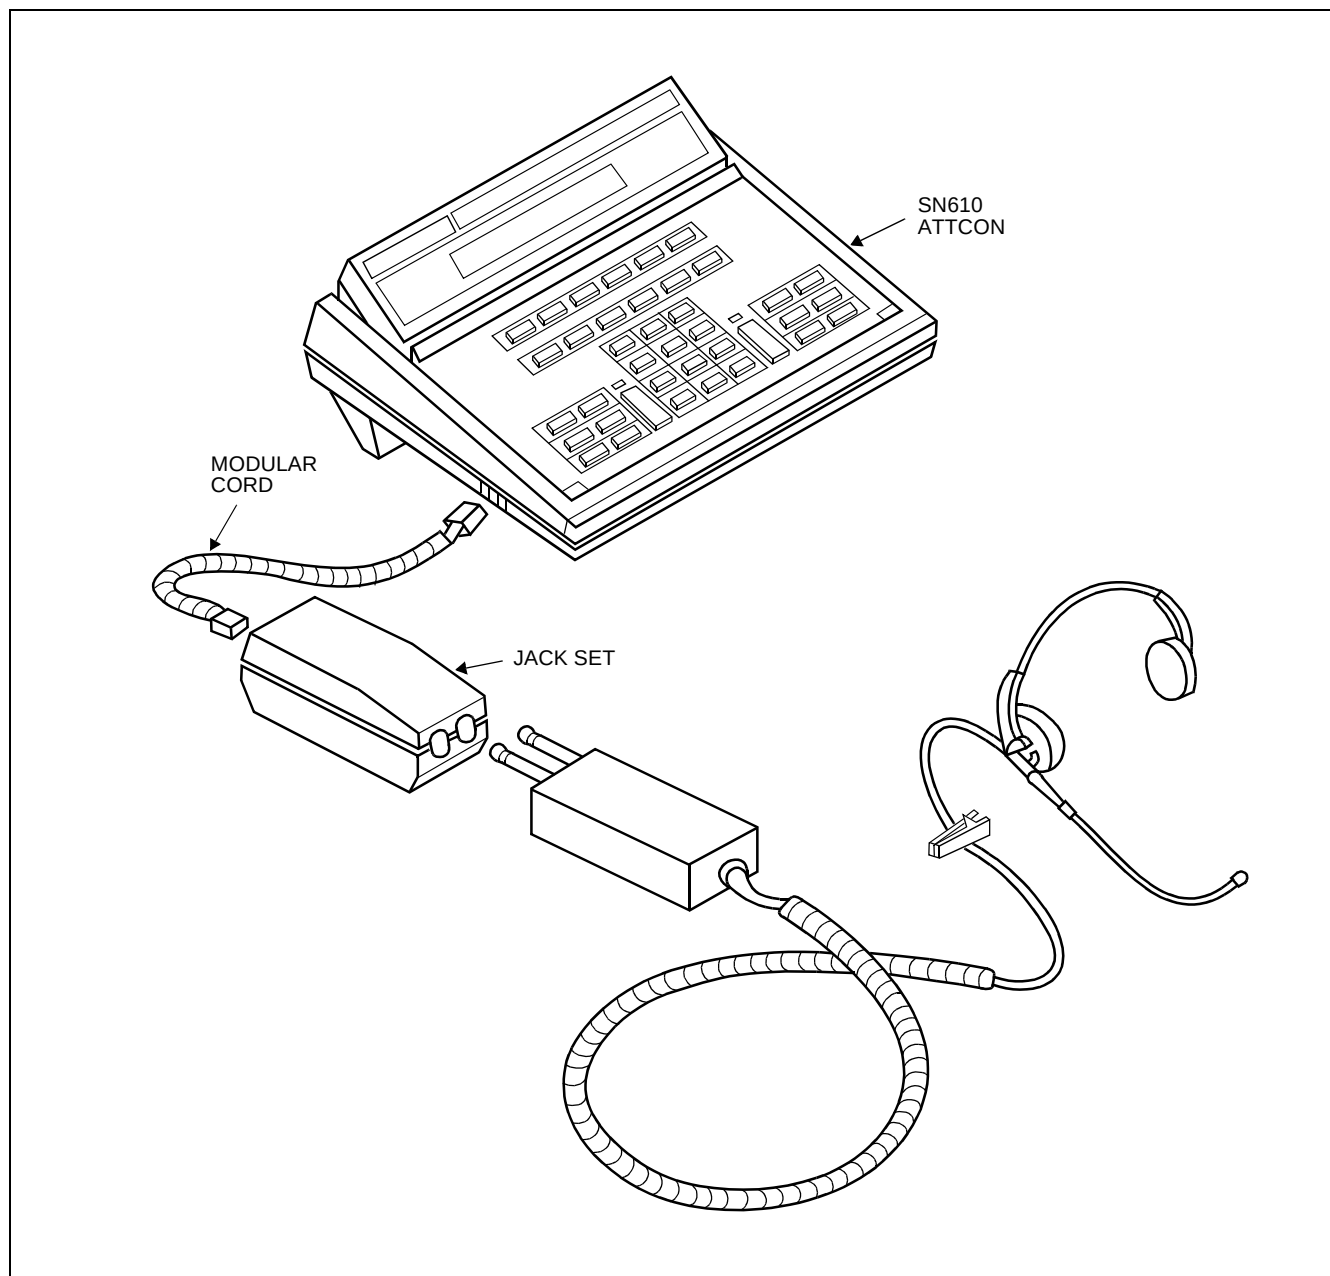

Figure 007-15 Jack Set Installation for SN610 ATTCON
STEP 2: To provide the console with the headset in place of the handset, unplug the modular cord from the handset and then plug the modular cord to the jack set as shown in Figure 007-15.